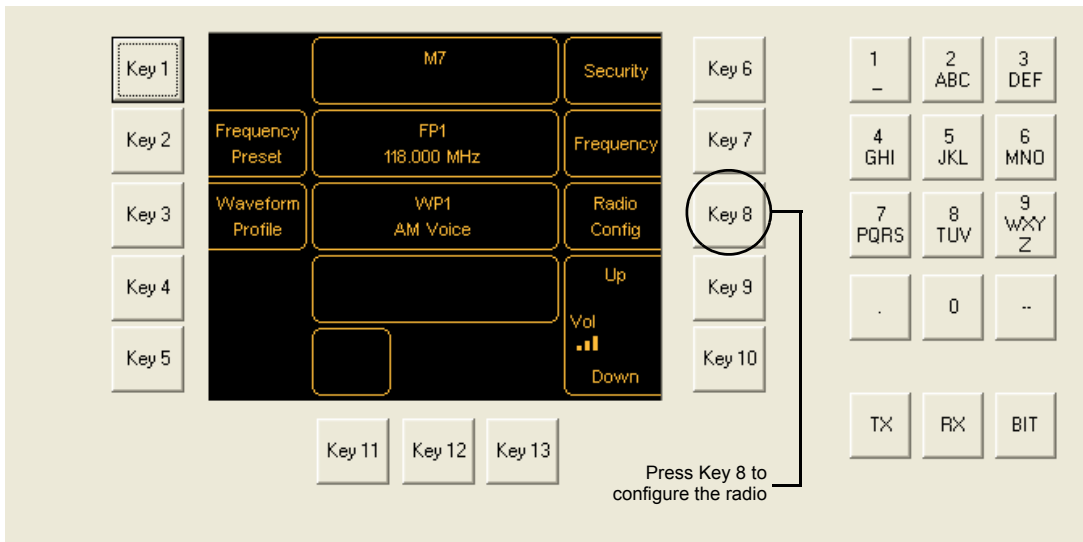

Fig 3-24 Home Screen
- (1) From the Home screen (Fig 3-24) press *Key 8 – Radio Config.*